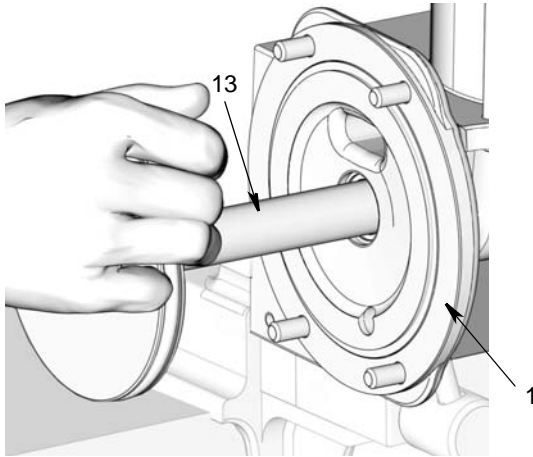

FIG. 51
- f. Apply a thin layer of grease around and along the entire length of the piston rod (13). Gently push the piston rod into the pump base (1) using a push and turn motion to work the rod through the previously installed, seals and spacers (FIG. 51).